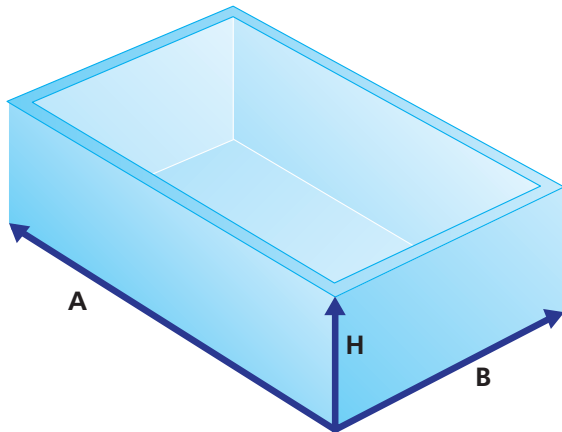

Fig. 1
As an example, your greenhouse has the following dimensions: length (A) – 3,65 m, width (B) – 2,4 m, height (H) – 2,5 m (Fig. 1).